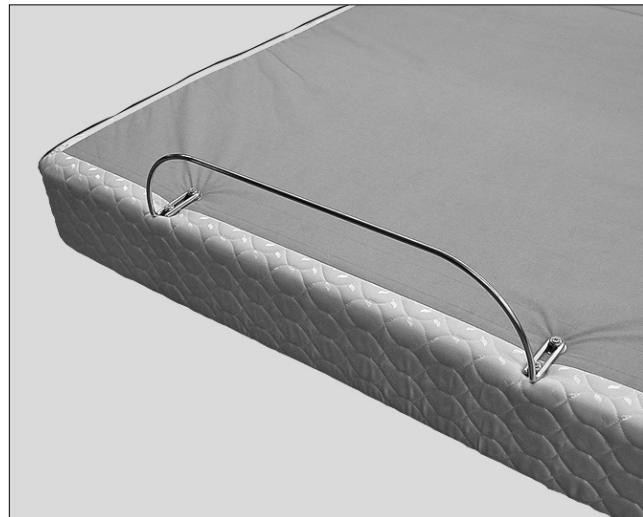

FIGURE 6: Typical mattress retainer installed.
- Tighten screws to complete mattress retainer installation (FIGURE 6).